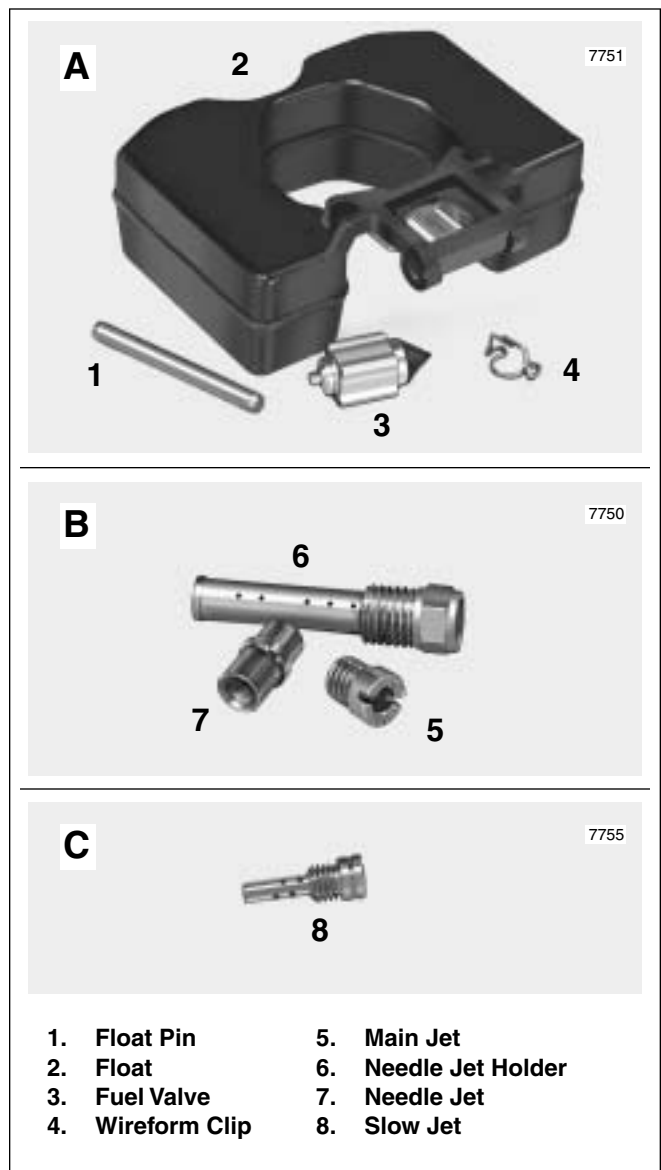
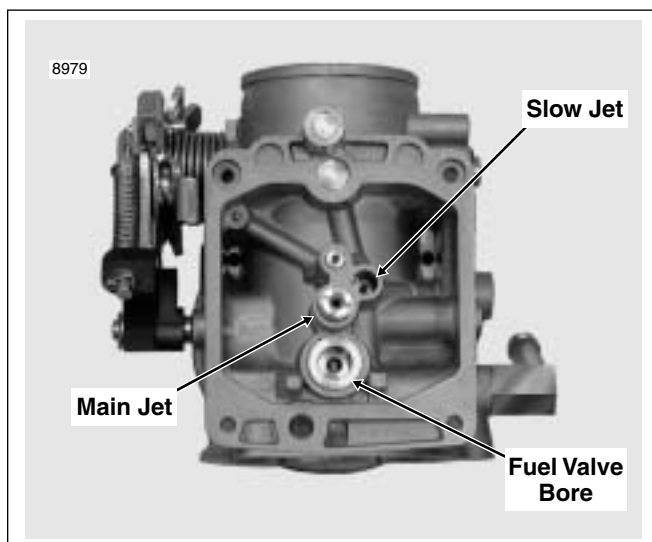

Figure 4-8. Float Chamber Components
Figure 4-10. Carburetor Housing
3. Remove float and fuel valve. Carefully slide wireform clip on fuel valve from tab on float. Remove wireform clip from groove in fuel valve. See A of Figure 4-8.
4. Using slot at top, turn main jet with flat tip screwdriver to unthread from needle jet holder. If necessary, hold hex on needle jet holder with a 5/16 inch wrench to prevent rotation. See Figure 4-10.
6. Turn carburetor right side up to drop out needle jet, which is loose in main jet bore. See B of Figure 4-8.
7. Insert thin bladed flat tip screwdriver into slow jet bore. See Figure 4-10. Using slot at top of slow jet, unthread to remove. See C of Figure 4-8.
1. Thoroughly clean all loose parts with carburetor cleaner. See Figure 4-8. Blow dry using low pressure compressed air.
1. Place needle jet into main jet bore. See Figure 4-10. Be sure end with chamfered edge and larger ID goes in first.
4. Insert slow jet into slow jet bore. See Figure 4-10. Insert thin bladed flat tip screwdriver into bore, and using slot at top of slow jet, tighten until snug.
6. Place float into cavity of carburetor inserting fuel valve into bore between pedestals. See Figure 4-10.